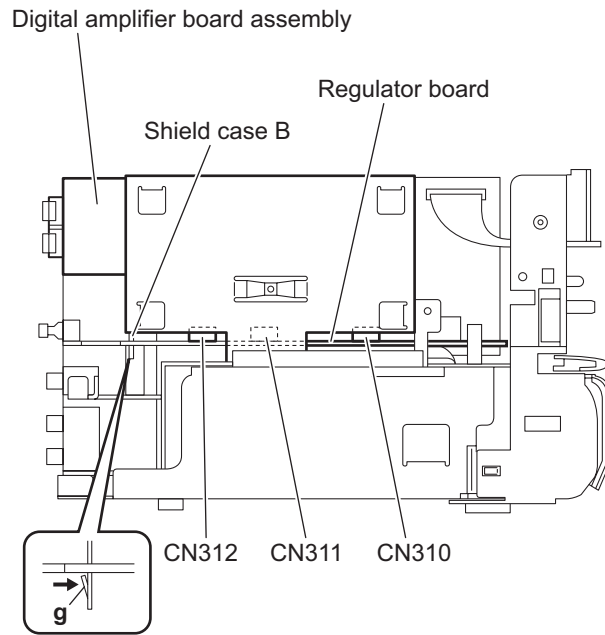

Fig.16
- From the left side of the main body, disconnect the connectors (**CN310**, **CN311**, **CN312**) on the digital amplifier board assembly from the regulator board. (See Fig.16.)
- Release the joint **g** of the shield case B in the direction of the arrow and take out the digital amplifier board assembly from the main body. (See Fig.16.)